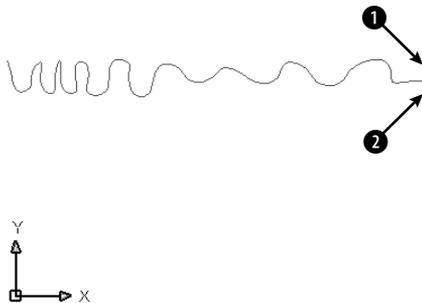

Figure 23-32: A spline.
2. Save it as `ab23-06.dwg` in your AutoCAD Bible folder. You see a spline, as shown in Figure 23-32. In this exercise, you use the spline to draw some drapes.
3. Mirror the spline. For the mirror line, turn on ORTHO and use ① and ② as shown in Figure 23-32. Don't delete the original spline.